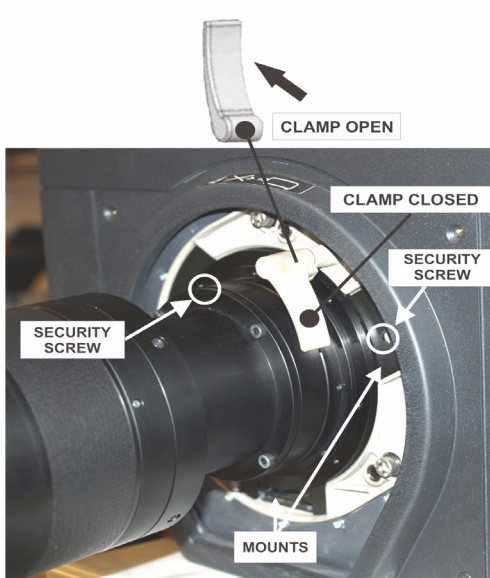

FIGURE 2-1 - LENS INSTALLATION
2. Rotate the lens clamp to the OPEN position, see Figure 2-1 - Lens Installation.